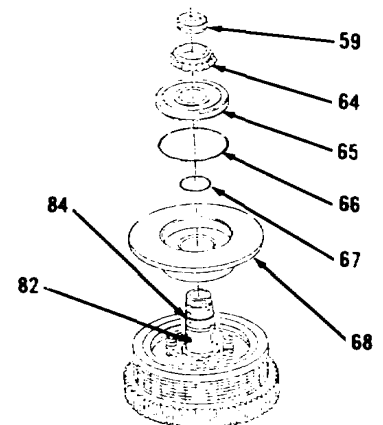

Figure 14-22.
11. Install piston clutch (68) on shaft (84). Make sure groove slot in piston clutch (68) is alined with dowel pin (82) on shaft (84, Figure 14-22).
12. Install new seal ring (66) and new preformed packing (67) on plate (65).
13. Install plate (65) on shaft (84). Make sure groove slot in plate (65) is alined with dowel pin (82) on shaft (84).
14. Heat roller bearing (64) in engine oil SAE 30 to temperature of 275 degrees F.
15. Install roller bearing (64) and spacer (59) on shaft (84).